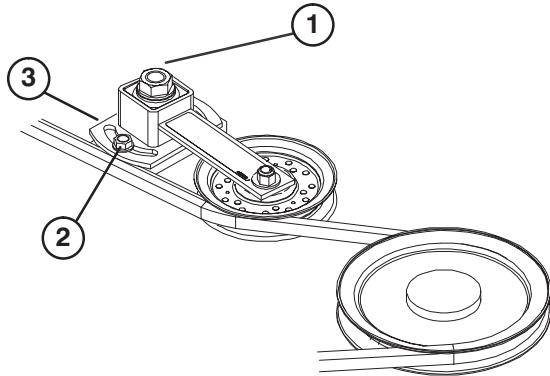

Figure 27
3. Loosen two nuts securing idler plate in place. Using a socket and torque wrench, tighten the idler adjusting nut to 40–50 ft.-lb. (Fig. 27).
2. Nuts (2)
4. Hold the torque against the belt and tighten the two nuts so idler plate is held securely in place (Fig. 27). Release the idler adjusting nut. Install cover.